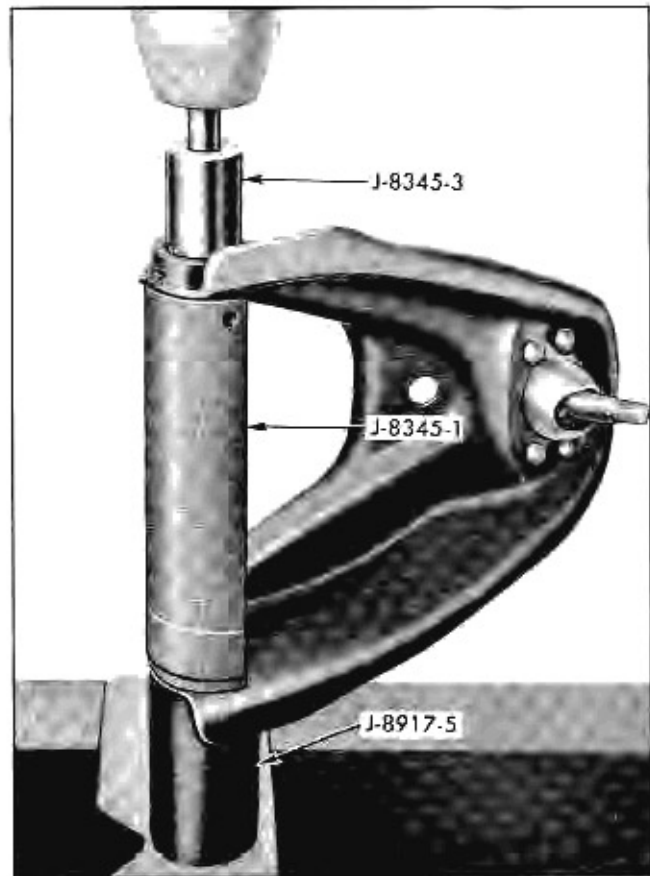

Fig. 3-23 Removing Cross Shaft and Bushings
2. Install control arm in press as shown in Fig. 3-23. Install tool J-8345-3 on opposite side from the bushing that is installed from the outside of the arm. Tool J-8345-1 must be in place to keep arm from flexing.